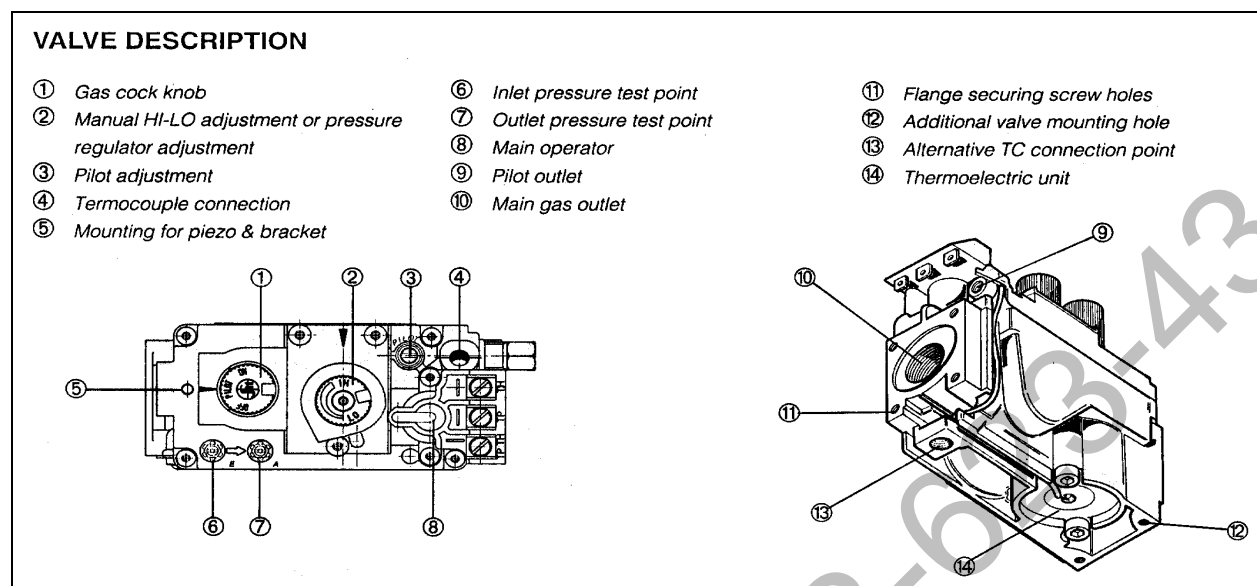

Figure 13
Once connected to the gas supply the gas inlet pressure and manifold gas pressure must be tested. The supply line must include a manual shut-off valve and union so that the unit can be disconnected for servicing. The gas control valve has built in pressure taps for test gauge connections (#'s 6 & 7 in Figure 13). The supply line pressure must be tested to ensure it meets the minimum pressure for the type of fuel in use (NG or LP).
**Pressure Measurements:** To measure the pressure of gas directly upstream of the supply connection, connect a manometer to the gas inlet tap(6) and manifold pressure tap (7) in Figure 13